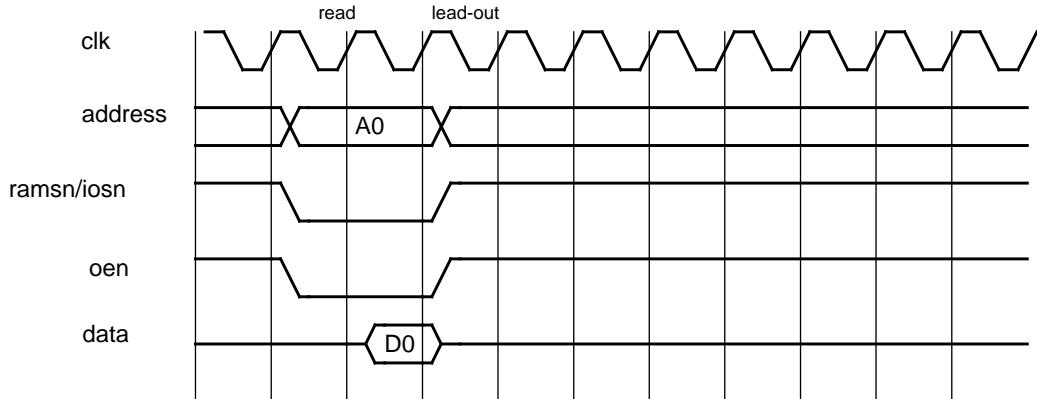
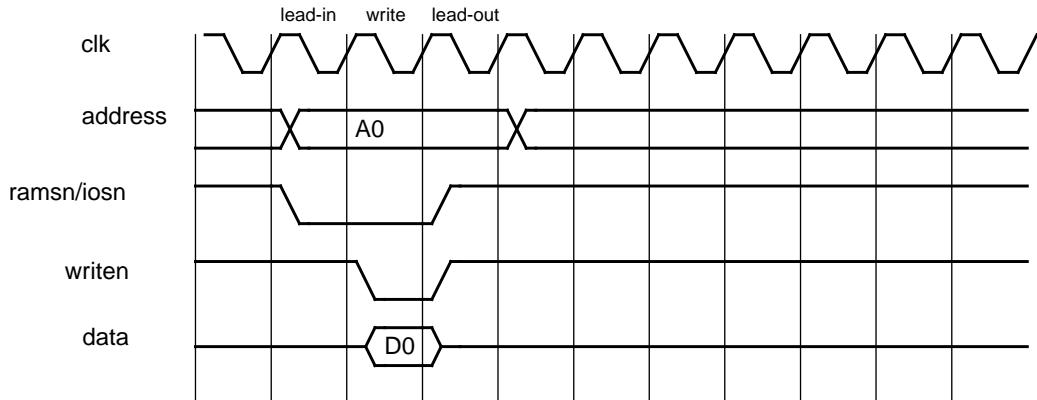

Figure 270. 32-bit PROM/IO read cycle
Figure 271. 32-bit PROM/IO write cycle
For the PROM and I/O operations, a number of waitstates can be inserted to increase the read and write cycle. The number of waitstates can be configured separately for the I/O and PROM address ranges, through a programmable register mapped into the APB address space. After a reset the waitstates for PROM area is set to its maximum (15). Figure 270 and figure 271 show timing diagrams for the PROM read and write accesses.
Read accesses to 32-bit PROM and I/O has the same timing, see figure 270
The write access for 32-bit PROM and I/O can be seen in figure 271